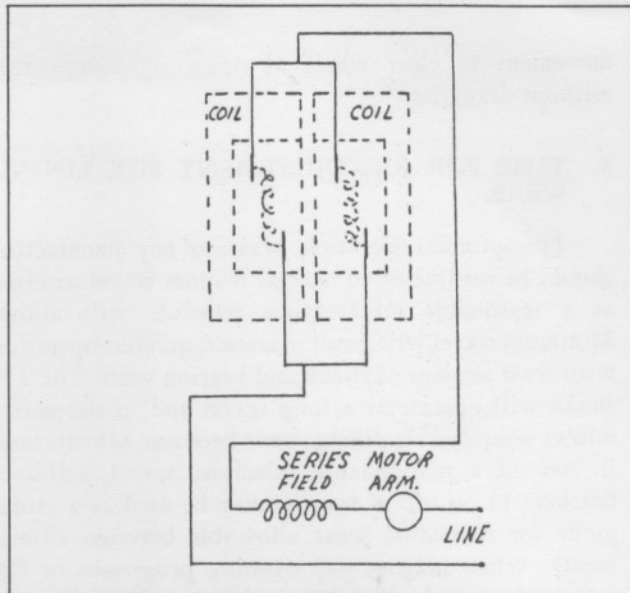

Fig. 4. Series Coil Connection
c. SERIES COIL OPERATION.—Series brakes are operated with coils connected directly in motor circuit. Due to high currents, coils are connected so that $\frac{1}{2}$ of the motor current flows through each brake coil as per Fig. 4. In case of coil failure, brake may be operated on one coil for shorter time by disconnecting defective coil.